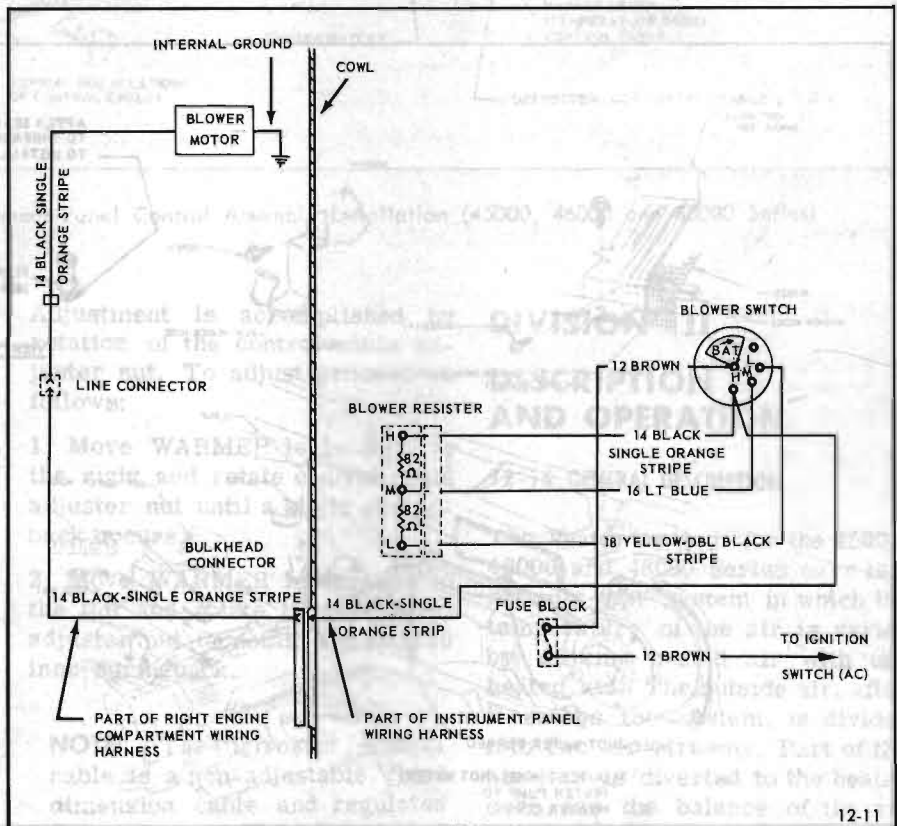

Figure 12-14—Wiring Diagram of Heater System (45-46-48000 Series)
3. Fan Lever - This control operates the blower motor at three blower speeds. Movement of the control to the right will respectively provide low, medium and high blower motor speeds (see Figure 12-14).